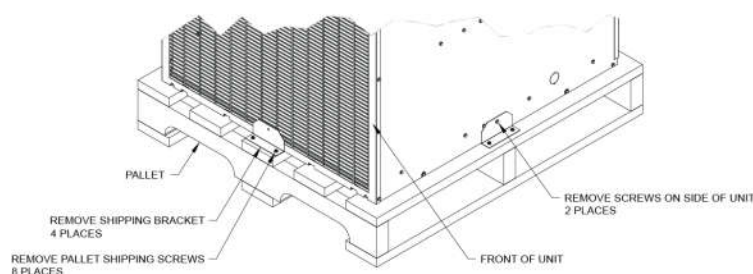
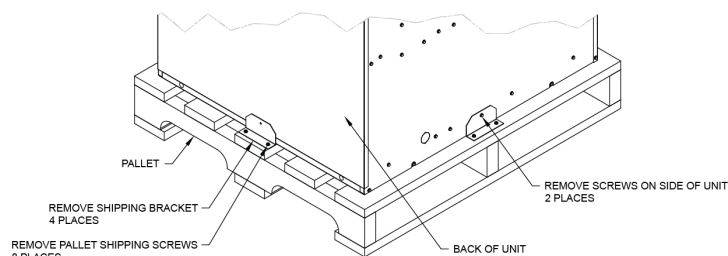

FIGURE 3 - Standard Packaging with Brackets - Front View
FIGURE 4 – Standard Packaging with Brackets - Back View
- 9) Ensure that the shipping brackets and screws are removed from the chassis section. Refer to **FIGURE 3-Standard Packaging with Brackets – Front View** & **FIGURE 4 – Standard Packaging with Brackets – Back View** for more information.
- a. Check that the gas manifold is firmly in place on the burner box and secured with the provided screws (4).